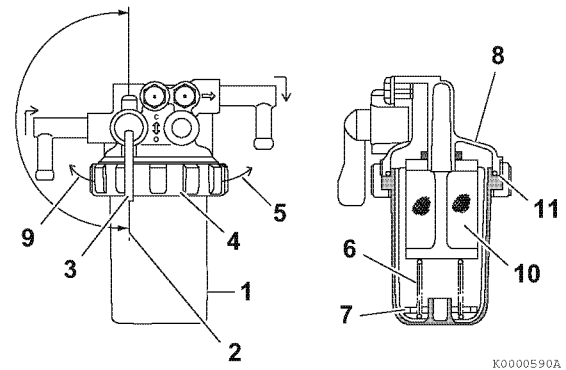

Figure 5-4
1. Position an approved container under the fuel filter/water separator (1, **Figure 5-4**) to collect the contaminants.
2. Close (2, **Figure 5-4**) the fuel cock (3, **Figure 5-4**).
3. Turn the retaining ring (4, **Figure 5-4**) to the left (9, **Figure 5-4**).
4. Carefully remove the cup (1, **Figure 5-4**). Remove the retaining spring (6, **Figure 5-4**) and float (7, **Figure 5-4**) from the cup. Pour the fuel into an approved container and dispose properly. Hold the bottom of the cup with a shop towel to prevent the fuel from dripping. Wipe up any spills immediately.
6. Inspect the condition of the mesh filter (10, **Figure 5-4**). Clean the mesh filter if necessary.
7. Inspect the condition of the O-ring (11, **Figure 5-4**). Replace the O-ring if necessary.
8. Put the float (7, **Figure 5-4**) and retaining spring (6, **Figure 5-4**) inside the cup.
9. Reinstall the cup to the mounting flange (8, **Figure 5-4**) and turn the retaining ring (4, **Figure 5-4**) to the right (5, **Figure 5-4**). Hand-tighten only.
10. Open the fuel cock (3, **Figure 5-4**).